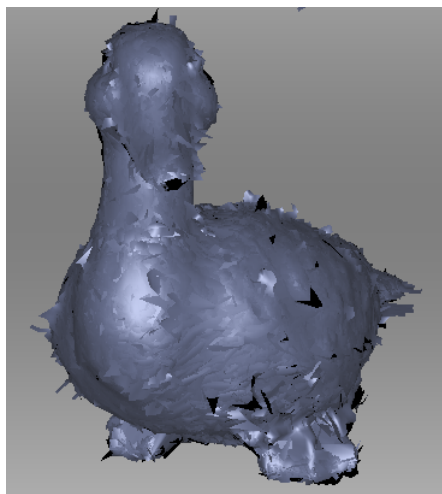

Figure 88: Alignment result.
3. Click *Align*. The result should be as Figure 88 depicts. If you are dissatisfied with this result, click  and follow the recommendations in Manual Rigid Alignment with Points.